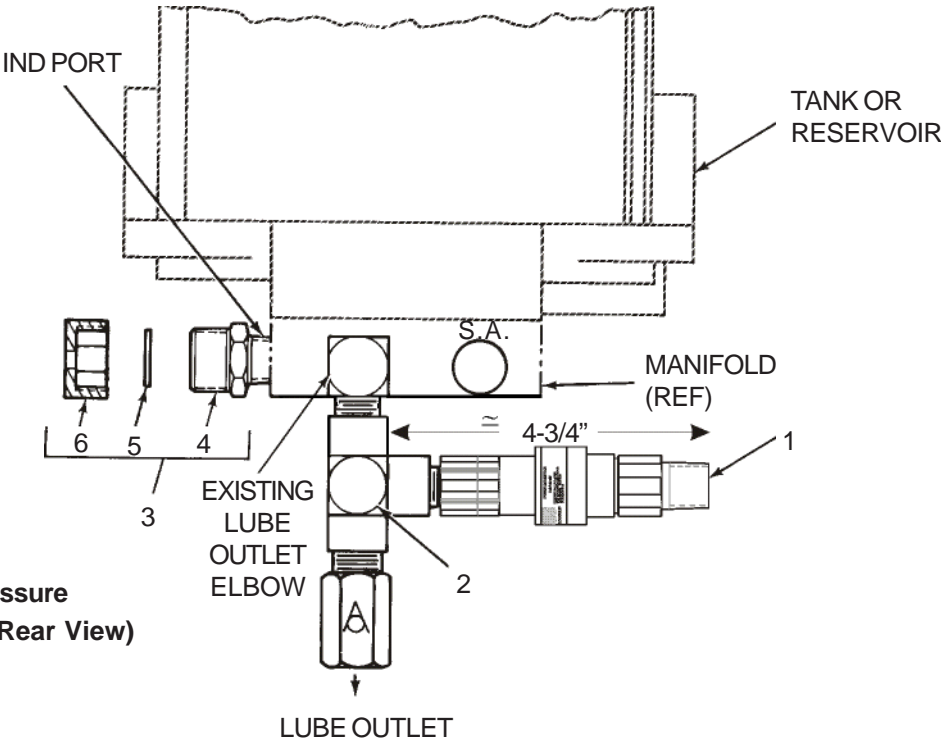

Figure 6-2. High-Pressure Switch (Rear View)
6.4.1 General. Maintenance tips, disassembly and assembly procedures for the high-pressure switch are discussed in Paragraphs 6.4.2 and 6.4.3. A typical pressure switch is shown in Figure 6-2 and should be referred to during the discussion.
6.4.3 Assembly/Disassembly of High-Pressure Switch. Figure 6-2 shows a typical high-pressure switch mounted to a manifold. All components of the unit are connected by pipe threads and are easily assembled or disassembled. The blowout assembly (3) is connected to the IND port of the manifold and the pressure switch (1) is connected by fittings to the LUBE OUT port of the manifold. Normally, the only components which may require removal or replacement are the pressure switch (1) and the blowout disc (5). The pressure switch (1) is easily screwed out after all electrical connections are removed.
- a. Remove pressure relief nut (6) from adapter fitting (4).
- b. Remove blowout disc (5).
- c. Install new blowout disc (5) in pressure relief nut (6).
- d. Install pressure relief nut (6) on adapter fitting (4) and torque to 5 ft lbs.
6.4.4 Pressure Switch Parts Lists. Table 6-4 identifies the parts indexed in Figure 6-2.